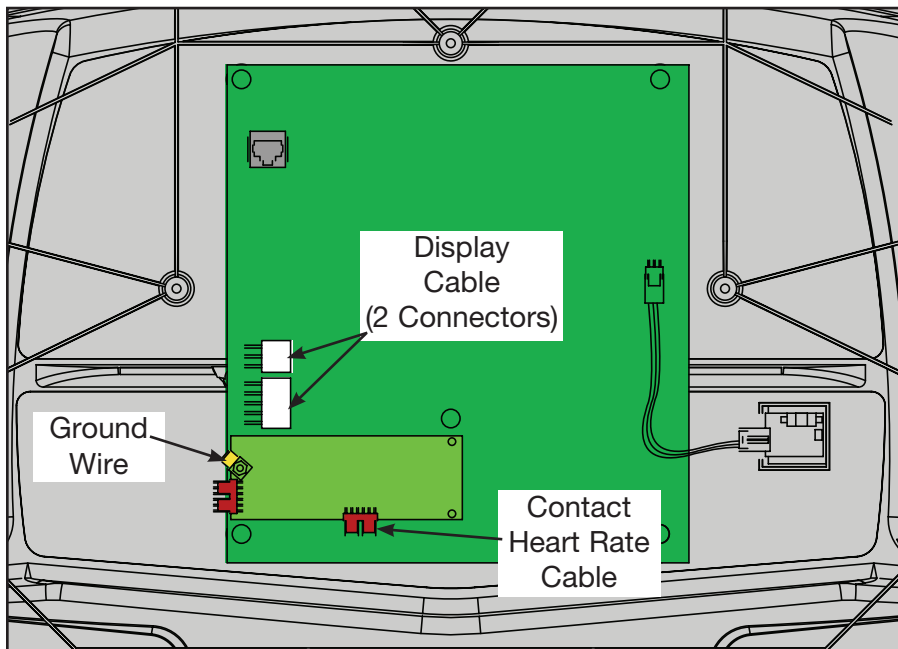

Figure 8
- C.** Connect these cables into the display board: the display cable (2 connectors), the contact heart rate cable and the ground wire. See Figure 8.
D. Check to see that all of the cables are connected firmly in their proper place. See Figure 8.